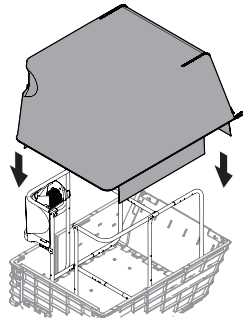

Figure 13
- Drrape mesh cover (764-05215) over frame assembly, aligning bag vent and mesh cover opening. See Figure 13.